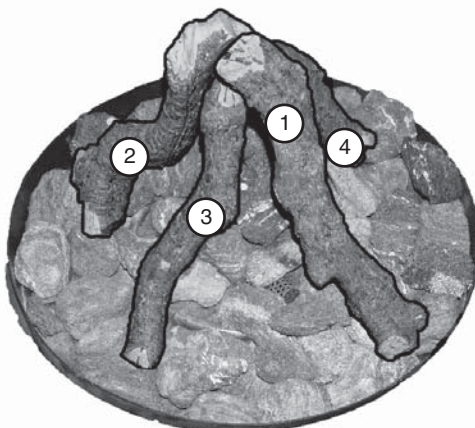

Fig. 18-4
1. Place the ends of three or four logs into the volcanic stones with their flat sides facing inward and their tops pointed upward. Then lean their other ends against each other at an angle in the center of the fire ring (see Fig. 18-4).